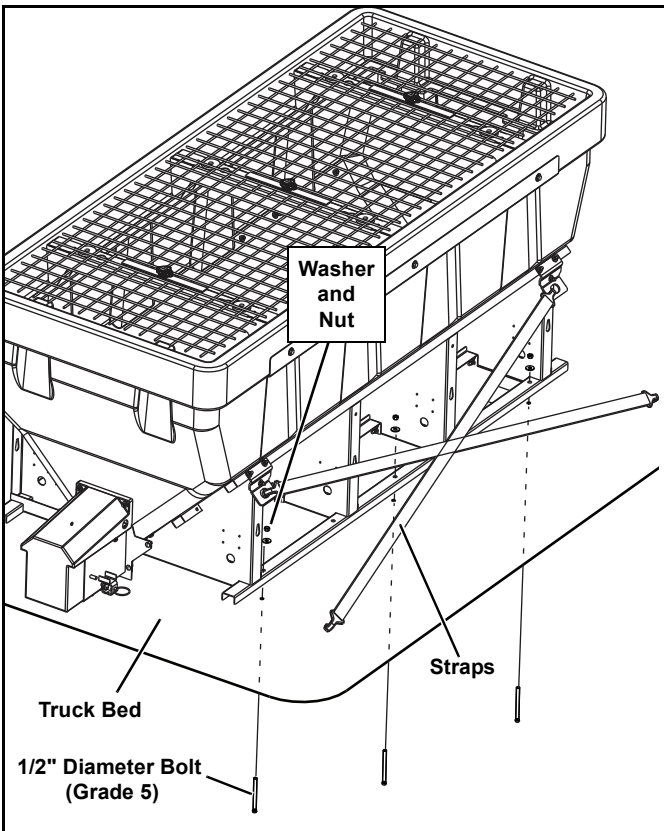

**Figure 1-12**
3. Once the spreader is setting in its proper spot, screw boards into each of the wood runners on the spreader. (See Figure 1-12) The ends of the board should just touch the side of the bed. The length typically ranges from 24 to 36 inches, depending on the width of the truck bed. The boards can be 2x4, 2x6, or any standard piece of lumber. These boards are supplied by the end user.